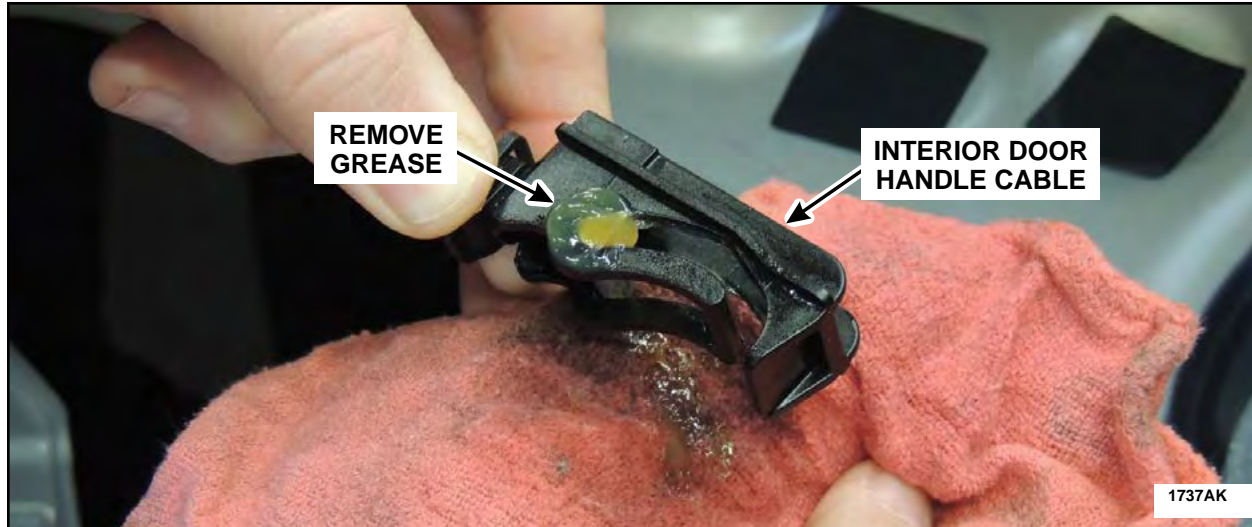

FIGURE 38
11. Using isopropyl alcohol and a clean shop cloth, thoroughly remove grease from the interior door handle cable mechanism. See Figure 38.